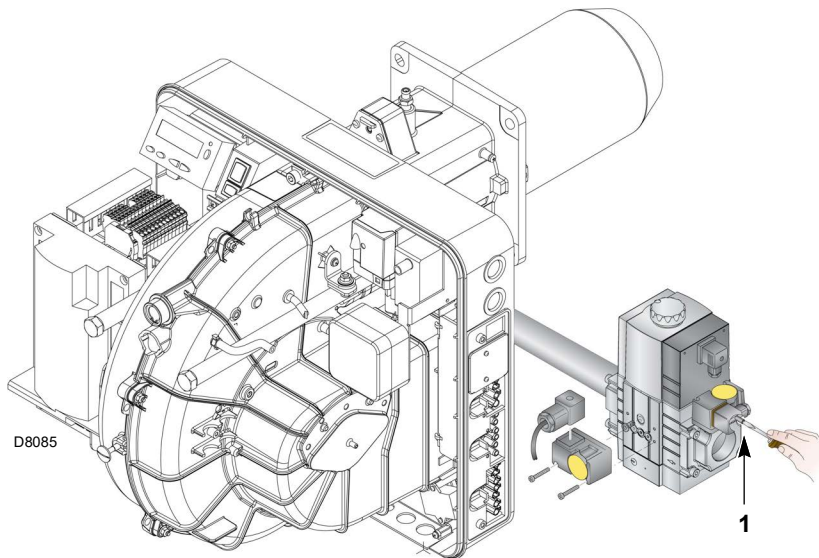

Fig. 27
- Bleed the air from the piping of the gas train, connecting a plastic tube to the pressure test point 1)(Fig. 27) of the minimum gas pressure switch. Take the vent tube outside the building so you can notice the smell of gas.